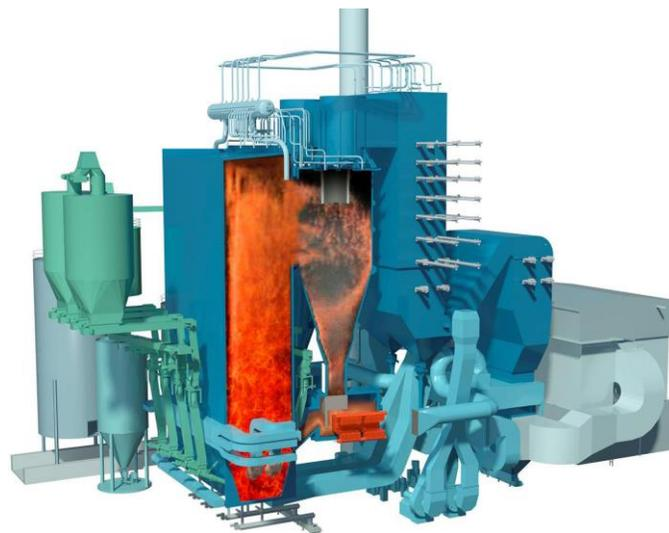

Figure 1. CFB process overview
CFB technology (**Figure 1**) was originally developed to burn a variety of different kinds of low-grade fuels that are not suitable for pulverized coal (PC) or grate-fired boilers. A large amount of inert bed material involved in the process allows a lot of variation in fuel properties or changing fuels on-line without any significant disturbance in the process. Circulating solids improves heat transfer and